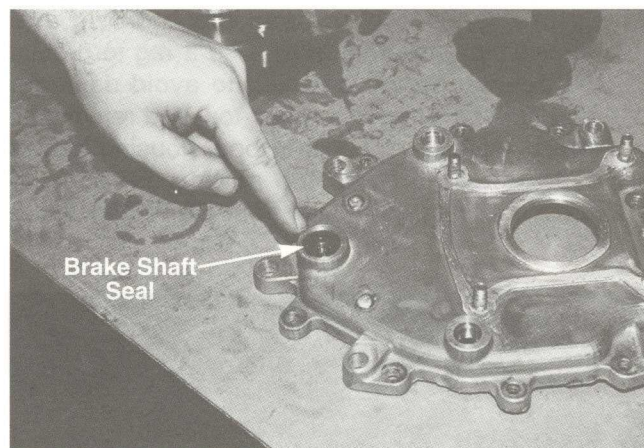

FIGURE 27.
27. Prior to installing the two housing halves, inspect the seal to make sure the spring is in place and the lip has not been damaged during disassembly. If it needs to be replaced, pry the seal from the housing, making sure not to mar the surface the seal gets pressed in to. Press a new seal into place making sure that the top surface of the seal is below the housing surface. See figure 27.